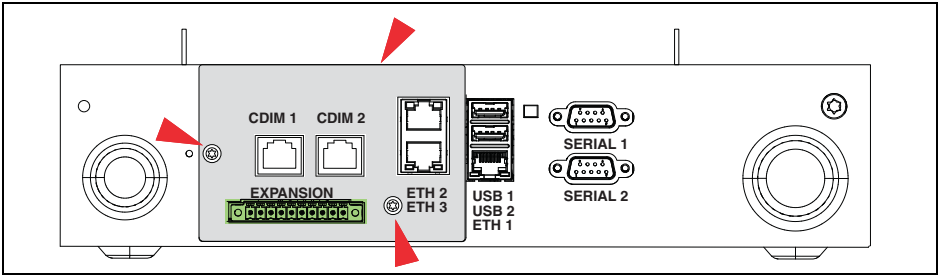

Figure 8. Remove Two T15 Screws Securing Comm Plate
4. Remove the two T15 #8 x 0.3125 screws securing the expansion comm port plate to the bottom of the console enclosure and set them aside with the comm plate. (see Figure 8).